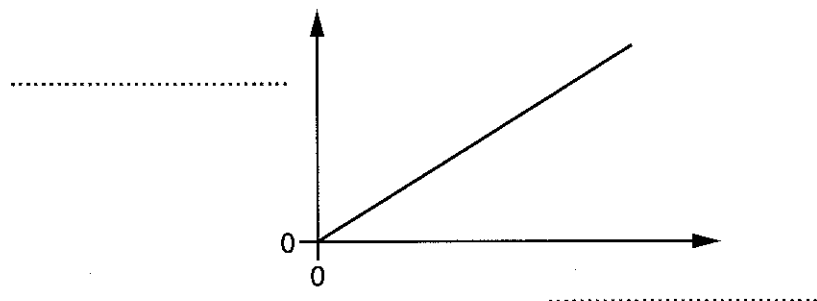

Fig. 1.3
- (b) The gradient of the graph shown in Fig. 1.3 is the Young modulus of a material.